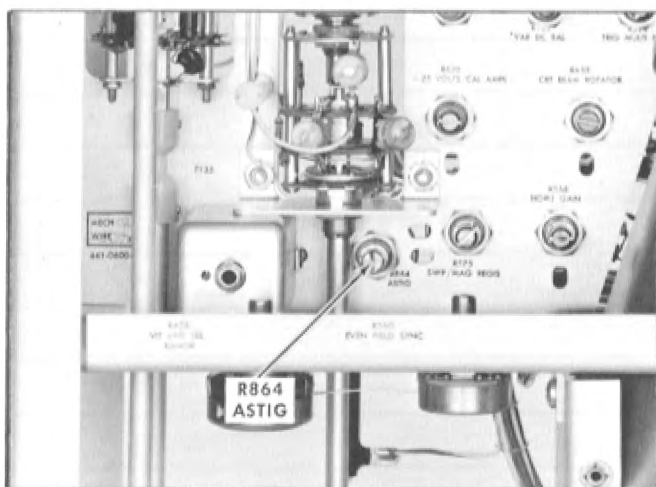
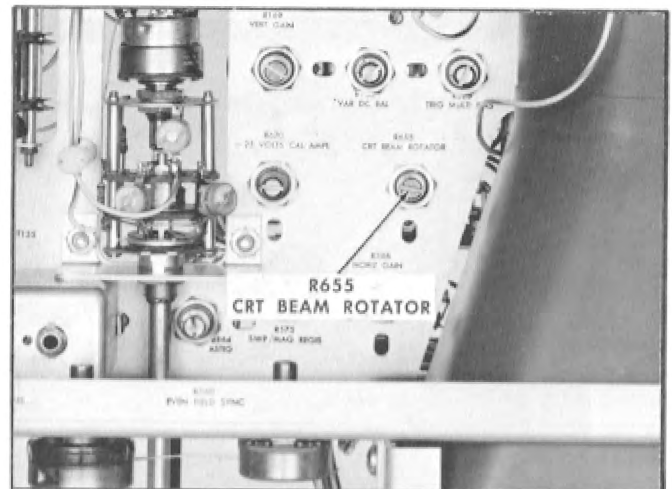

Fig. 6-6. Location of ASTIG adjustment.
Fig. 6-7. Location of CRT BEAM ROTATOR adjustment.
5. Adjust ASTIG (R864) ①
- c. Adjust the FOCUS and ASTIG controls (R864; see Fig. 6-6) to obtain a well-defined display using normal brightness.
6. Adjust CRT BEAM ROTATOR (R655) ①
- c. Adjust the CRT BEAM ROTATOR control (R655; see Fig. 6-7) so the flat bottom of the calibrator square waves coincides with the graticule line.